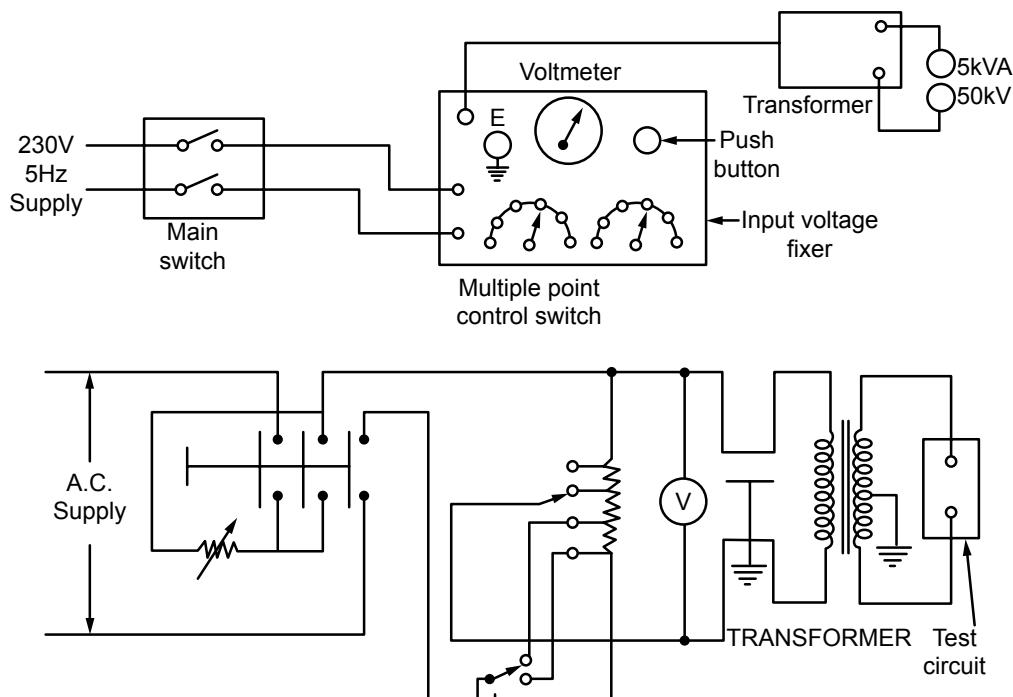

Figure 47.1
1. **Composition of transformer oil.** The most common liquid insulator in the transformer oil obtained by frictional distillation of petroleum. This oil has various characteristics regarding flashing point viscosity, and so on, depending upon the specific characteristics of transformer oil that are shown in Figure 47.1.
5. **Effect of Moisture.** The slightest trace of moisture in oil greatly reduces its dielectric strength. The effect of moisture is shown in Figure 47.1. Disc gap water is held in suspension in oil in minute drops, and when voltage is applied there, drops are attracted by the dielectric field. Thus, they are attracted to the denser portion of the field and may form larger drops by collision when attracted to and after touching a metal part, and thus having the same potential they are immediately repelled. If the field is uniform the drops form conducting chains along the lines of force. It can be seen that the effects of moisture should vary greatly with the shape of the electrode and with some shapes of the moisture may